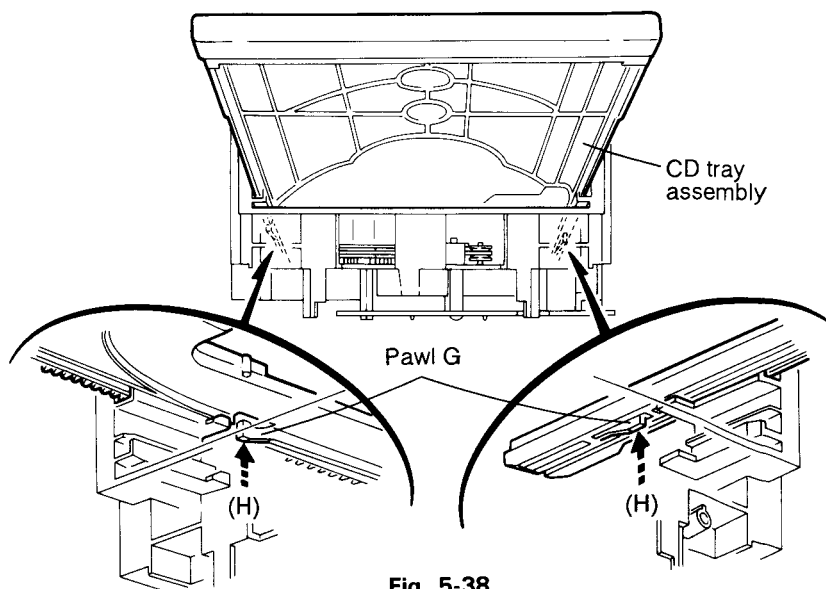

Fig. 5-38
15. At the position where the CD tray assembly has stopped, pull out the CD tray assembly while pressing (H) the two pawls (G) on the back side of CD tray assembly (See Fig. 5-38). In this case, it is easy to pull out the assembly when it is pulled out first from the stage CD tray assembly.